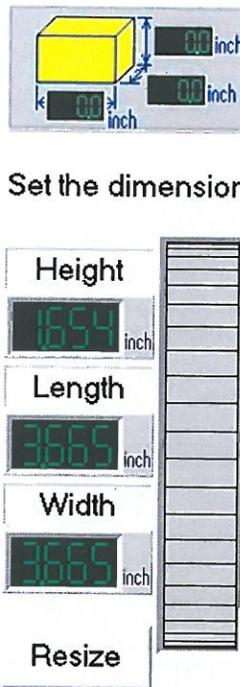

Figure 10: Image of the Set Dimension Icon and the Set Dimension Menu
- ii. The **SCALE** settings are for scaling of the object. Please make sure that these settings are applicable for the material area that you are cutting on (Figure 10).